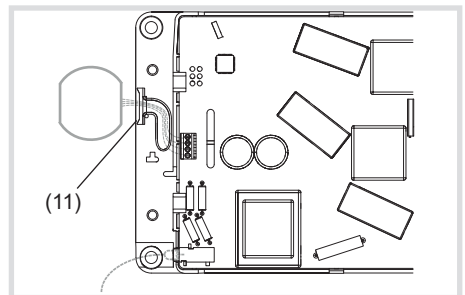

Figure 7: Connect potential-free output
- Remove the break-out opening (11) on the housing base (Fig. 7).